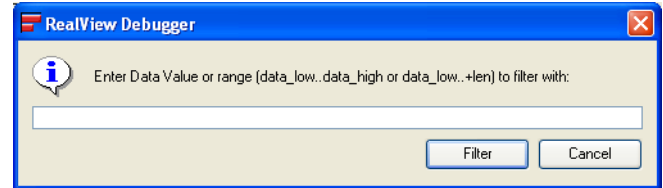

Figure 9-15 Filtering on a data value match
1. Select **Filter** → **Filter on Data Values...** from the Analysis window menu to open the Prompt dialog box. Figure 9-15 shows an example: